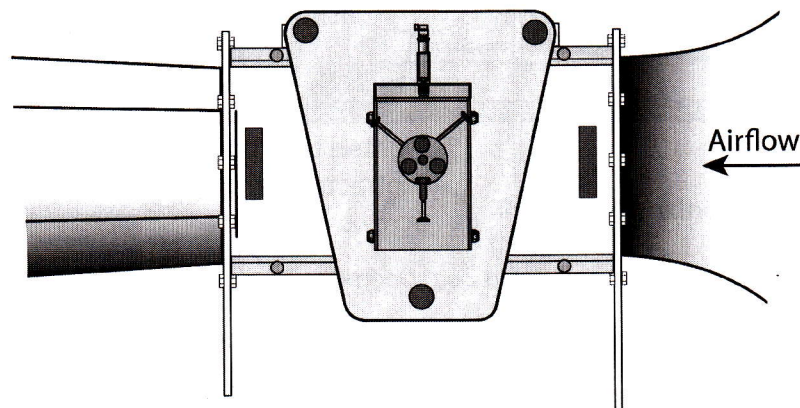
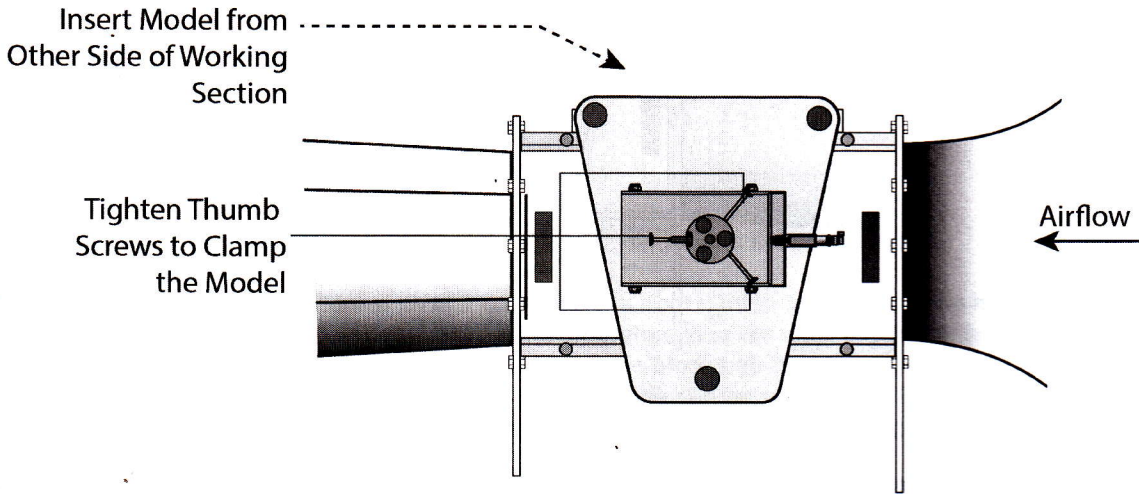

Figure 7 For Lift Measurement, Fit so that the Load Cell is Uppermost
Figure 8 Insert the Model from inside the Working Section and Clamp it into Position.
5. Hold the Balance Assembly onto the back plate and use the smaller thumbscrews and washers (supplied) to fix it onto the back plate. For drag measurement, fit the assembly so that the load cell is to the right (see Figure 8). For lift measurement, rotate and fix the assembly so that the load cell is to the top (see Figure 7), a ball spring mechanism will be felt and heard to lock into place when the assembly is in position.
7. Put the model into the working section and slide its support shaft through the hole in the middle of the AF1300z Balance Assembly. Set the model to the correct angle for the tests (usually zero incidence for aerofoil models) and tighten the three thumbscrews on the Balance Assembly to clamp the model (see Figure 8).